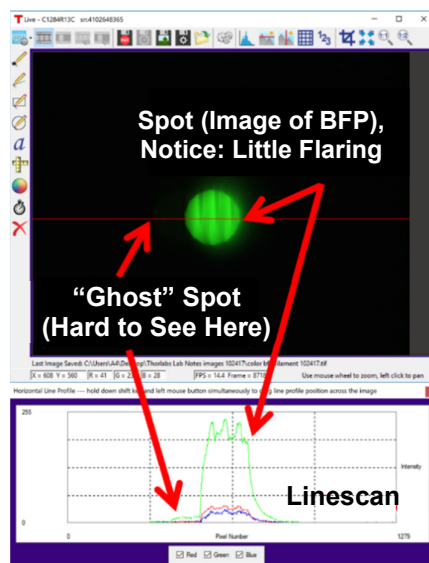

Figure 3: BFP spot appearance on the color camera when properly aligned.
- b. End Result: You should have the spot in the center of the screen, with the flare going out evenly on either side (see Figure 3).
- a. There is a right and a wrong orientation for the beamsplitter; try reversing the beamsplitter (rotating it 180°). Is the “ghost” spot a smaller fraction of the intensity of the main spot (you can tell by looking at the line profile, which should go through both)? Choose the orientation with the dimmer ghost spot. See Figure 3.